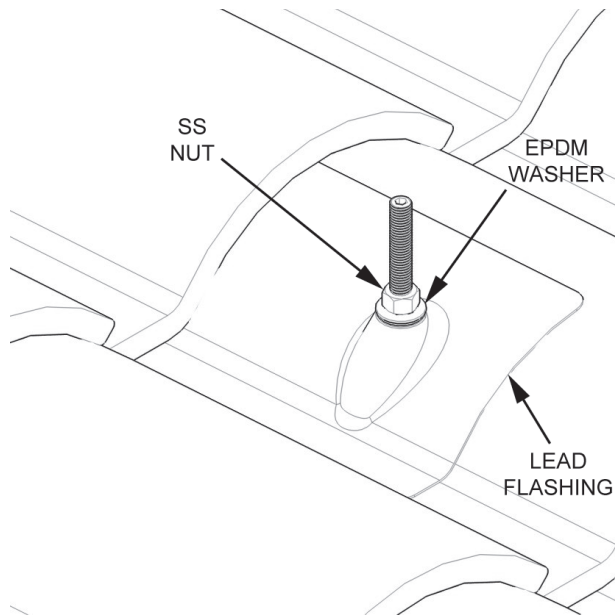

Figure 14.
19. Push another EPDM bonded washer down the threaded rod until it rests against the top of the flashing being sure that the EPDM side is facing down. Refer to Figure 14.
20. Thread another 3/8"-16 SS hex nut down the 3/8" all-thread and tighten it against the washer. Refer to Figure 14.